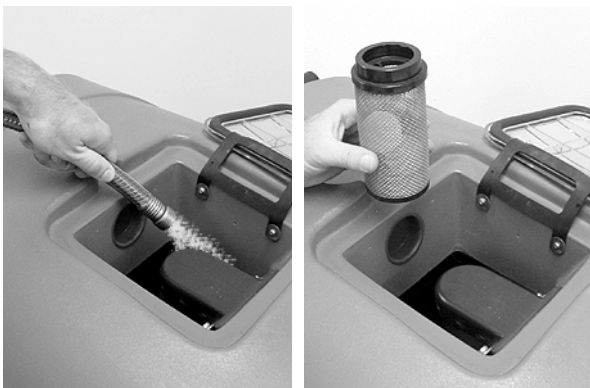

FIG. 21
3. Rinse out the recovery tank and the float shut-off screen with clean water (Figure 21).